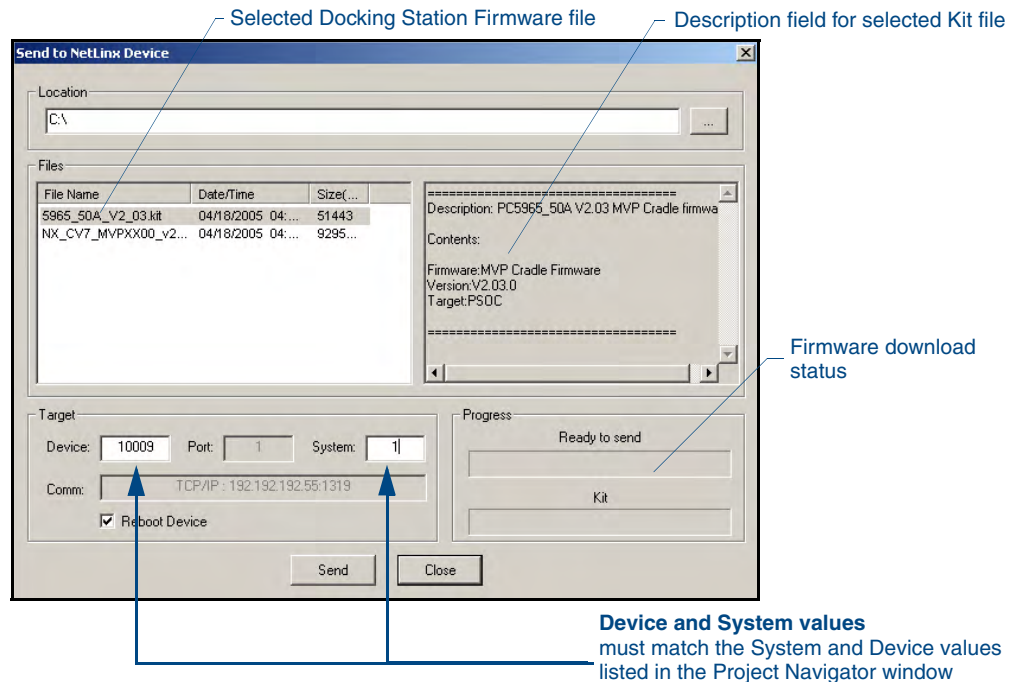

FIG. 41 Send to NetLink Device dialog (showing docking station firmware update via USB)
7. Select **Tools** > **Firmware Transfers** > **Send to NetLinx Device** from the Main menu to open the Send to NetLinx Device dialog (FIG. 41). Verify the panel's System and Device number values match those values listed within the System folder in the **OnLine Tree** tab of the Workspace window.
8. Select the docking station's Kit file (*ending in VXX.kit*) from the **Files** section (FIG. 41).